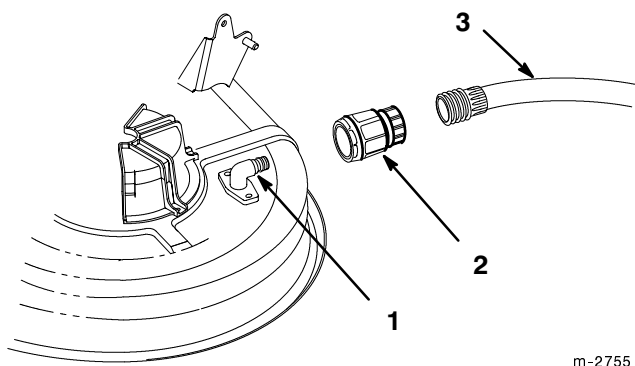

Figure 29
2. Screw coupling to the end of a garden hose, attach coupling to mower washout fitting and turn water on high (Fig. 29).